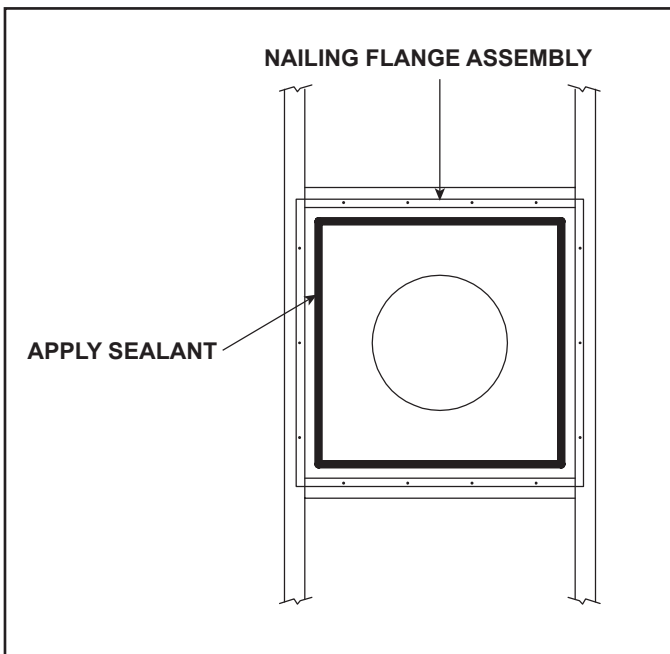

Figure 4
6. To prevent water infiltration, apply a bead of sealant around the louver assembly where the nailing flange meets the louver box. See Figure 4.